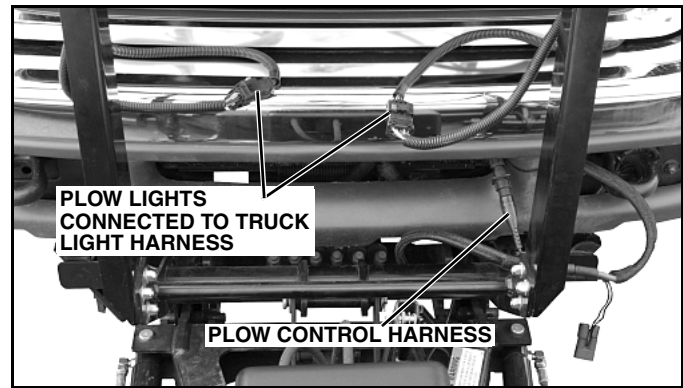

Figure 1-16
7. Plug plow light connectors into mating connectors on truck light harness (See Figure 1-16).